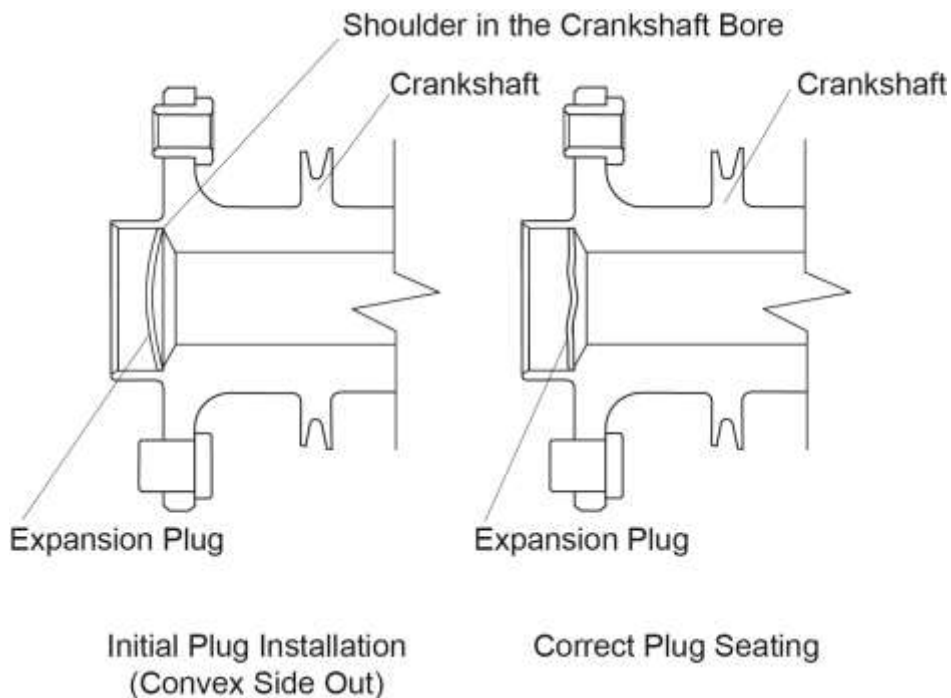

Figure 43
- (2) Apply a bead of Loctite® #2 Non-Hardening Gasket Maker or equivalent to the perimeter of a new expansion plug.
- (3) Seat the new expansion plug firmly on the shoulder in the bottom of the crankshaft bore with the convex side out (Figure 43).
- (4) Install a Crankshaft Welch Plug Driver P/N 64681 against the expansion plug and strike the end of the driver with a hammer until the expansion plug is correctly seated (Figure 43) in the crankshaft bore.
- (5) Remove excess gasket material with a clean cloth soaked with acetone.